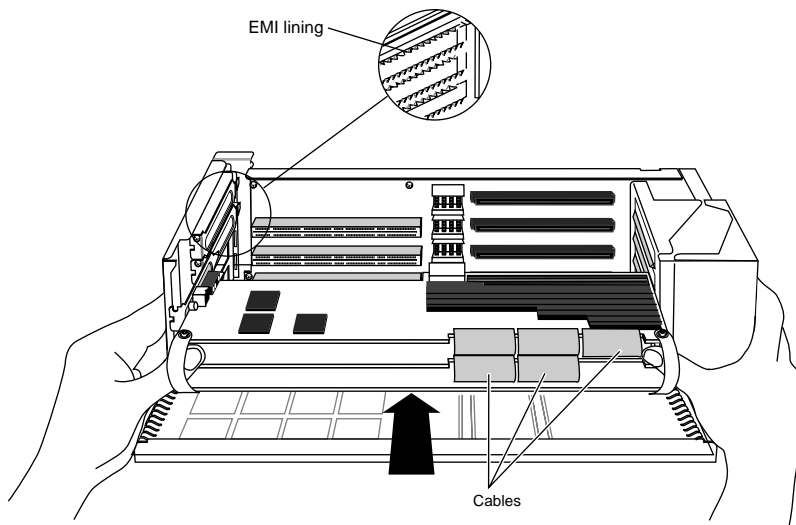

Figure 5-62 Reconnecting the Maximum IMPACT Graphics Board Set to the Midplane
- Place your right thumbs behind the pull straps, and push against the right standoff. Place your left thumb behind the pull strap and press against the middle board, as shown in Figure 5-62.